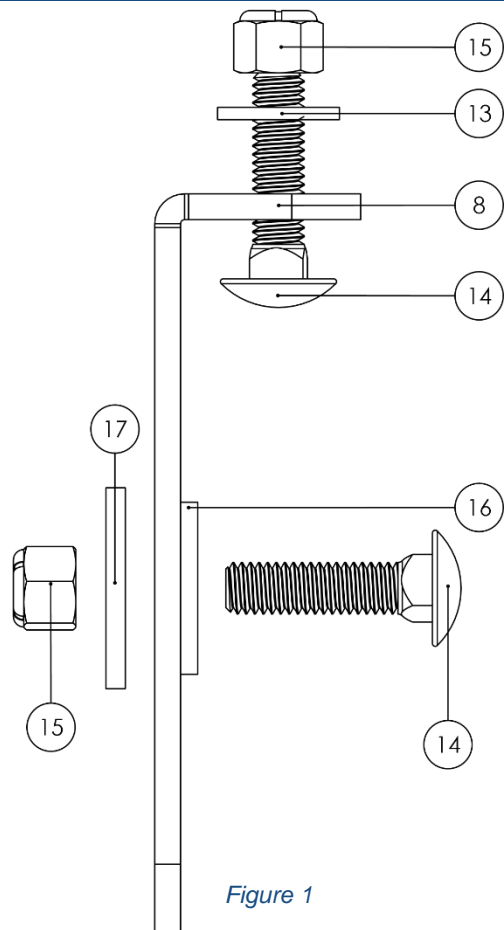

Figure 1
- 1. Install the Stake Pocket Insert Plates.** To install the Bases (Item No. 6) you must first install the Stake Pocket Insert Plates (Item No. 8). These Stake Plates will be held by two bolt assemblies and be put together in the order as shown in Figure 1. The top bolt assembly will hold the base while the bottom will provide additional stabilization to the rack. Begin by threading the top bolt assembly onto the Stake Pocket Insert Plate but allow the Lock Nut (Item No. 15) to sit at the top of its thread. Follow up with the bottom bolt assembly by only inserting the 1.5" Carriage Bolt (Item No. 14) for now. Next, insert the Stake Pocket Insert Plate into your truck's stake pocket. It may be necessary to tilt the plate diagonally if you are having difficulties during insertion. Complete the installation by tightening both bolt assemblies at increasing firmness. If necessary, use the provided Rubber Washer (Item No. 16) to stabilize and reduce the gap between the plate and the truck's bed frame.